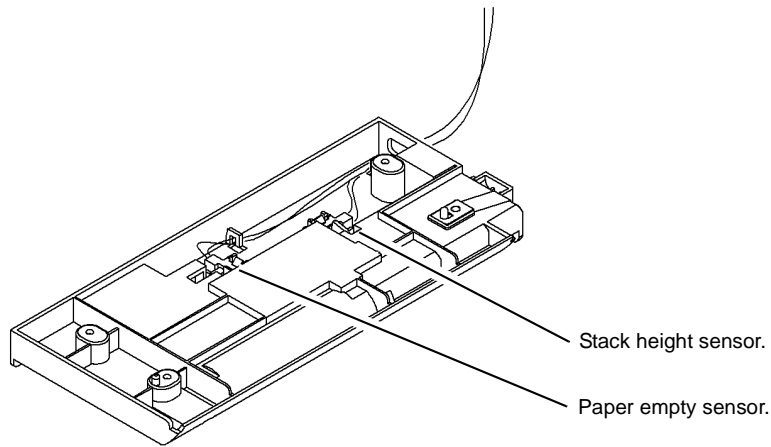

Figure 4 Sensors
13. As necessary, remove the stack height sensor or paper empty sensor, Figure 4.